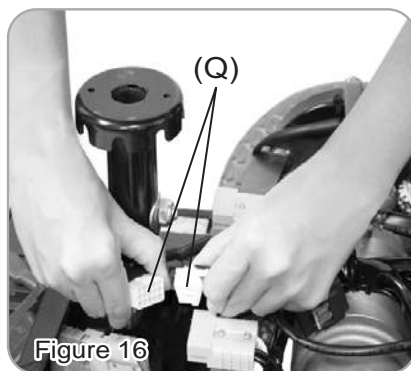

Figure 16
Disconnect front & rear section wire harness (Q), then tear off battery straps (R) and battery terminals (S) to remove the batteries (b). (Figure.16 & 17)